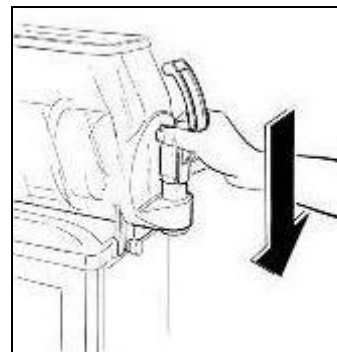

Fig. 25
- Re-insert the tap (fig.25) spreading Vaseline on the o-rings to facilitate sliding the tap in its seat until completely inserted.